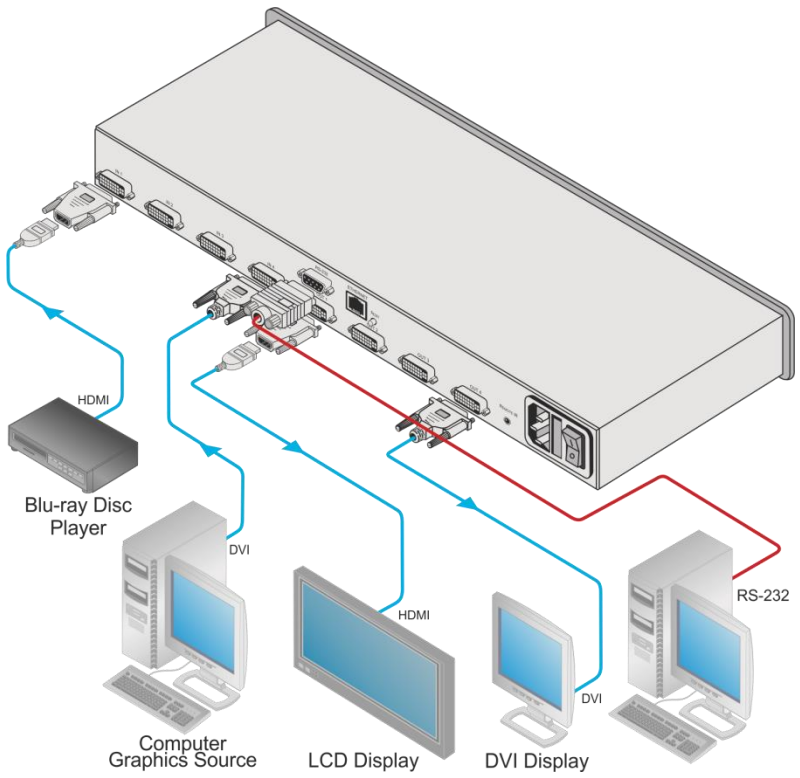

Figure 3: Connecting to the VS-44HDCP Rear Panel
To connect the **VS-44HDCP** as illustrated in the example in Figure 3:
4. Connect the power cord (not shown in Figure 3).